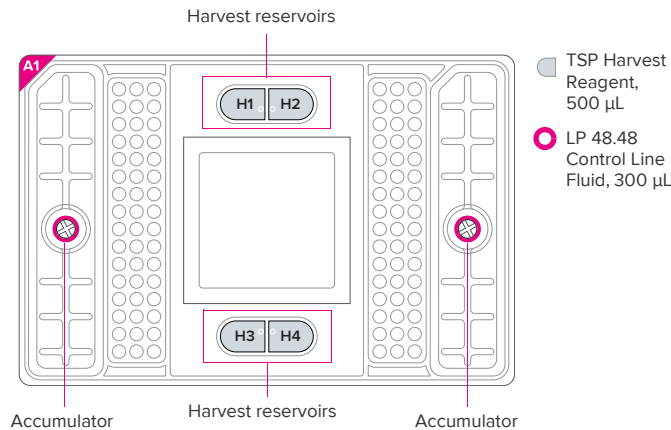

Figure 4. Priming map for the LP 48.48 IFC
- 2 Inject the entire contents of one 300 µL LP 48.48 Control Line Fluid syringe into each accumulator on the IFC (see Figure 4), **avoiding spills**.
- 3 Place the IFC on a flat surface and pipet 500 µL of TSP Harvest Reagent into each of the harvest reservoirs H1, H2, H3, and H4 (see Figure 4).